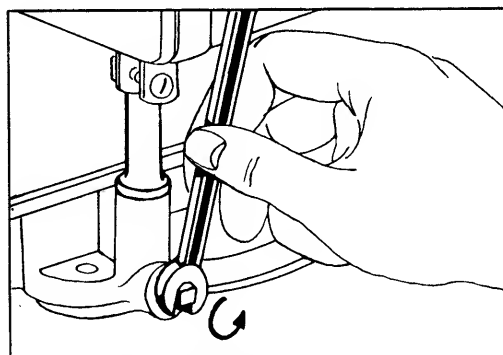

FIGURE 20. OIL DRAIN
After the first five hours of operating a new engine, drain the oil (See figure 20.) from the crankcase while engine is still hot and refill crankcase with new oil; thereafter change the oil every 25 hours of operation. This procedure ensures for minimum wear of engine parts and provides for virtually trouble-free operation. To change the oil, proceed as follows:
Step 1. With the machine on level ground, place a suitable metal container under the oil drain plug, then remove the drain plug. See figure 20.